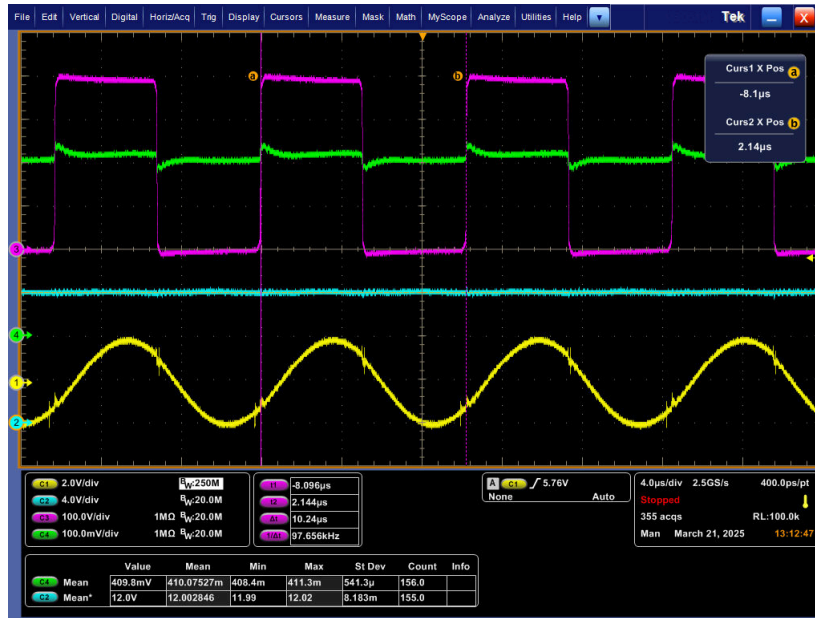

Figure 3-10. Steady State Waveforms at 15 A Load (Ch1= ISNS; Ch2 = Vout; Ch3 = SW; Ch4 = I\_OPT)
The following waveforms shows the voltage across the 10kohm( $I_{OPT}$ ), voltage across the resonant current sense resistor ( $I_{SNS}$ ), switch node voltage (SW) and Output Voltage ( $V_{out}$ ) with 115 VAC, 60 Hz applied to the AC input and 390 VDC applied to the DC input. Figure 3-10, Figure 3-11, and Figure 3-12 shows the waveforms during normal switching and high frequency burst mode and low frequency burst mode respectively.